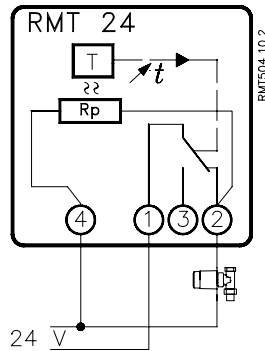

Fig. 5.
Wiring, fig. 5 & 6.
RMT versions with parallel accelerator Rp, will have a lower temperature differential when terminal ① is connected as shown in fig. 5 & 6.